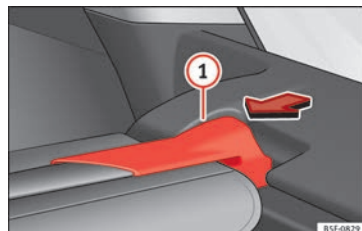

Fig. 166 In the luggage compartment: removing the rear shelf.
- Press the rear shelf support » **Fig. 166** ① in the direction of the arrow.
- Engage the support of the rear shelf » Fig. 166 ① in the right housing.
- Check that the support » Fig. 166 ① is properly engaged.